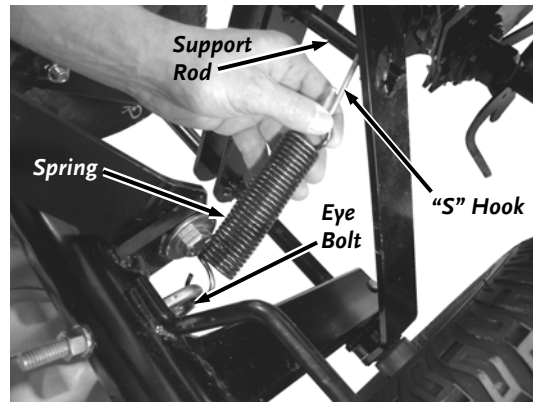

Figure 24
7. Place the small ends of the “S” Hooks onto the Springs and hook the Springs to the Eye Bolts (Figure 24).